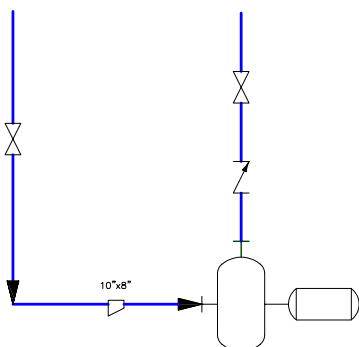

Figure 2-81 Check valve and gate valve placed on the outlet line of the first pump
7. Place Check Valves and Gate Valves on the outlet lines of the two pumps, refer to Figures 2-81 and 2-82.